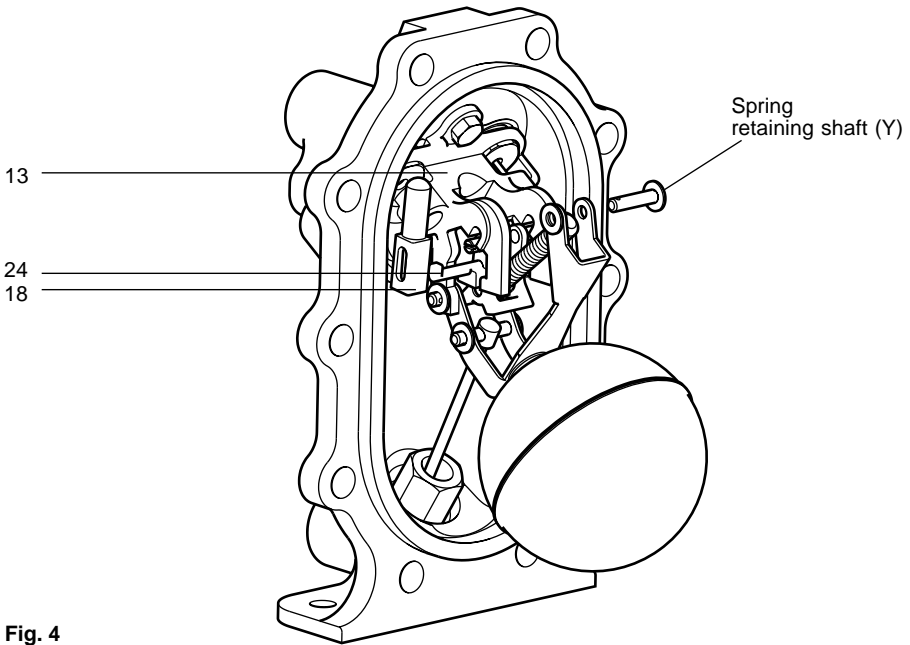

Fig. 4
4. Remove the split pin and washer, from the spring retaining shaft (Y). (See Fig. 4).
6. Draw the actuator arm downwards within its slots until the whole spring and actuator arm assembly with the exhaust valve comes free. It may be necessary to slide the exhaust valve (item 18) backwards against its internal spring to free it from the pump bracket guide (item 13).
8. Gently rotate the exhaust valve away from the tanged spigot of the actuator arm (item 24, shown in Fig.4) being careful not to damage or lose the small exhaust valve compression spring.